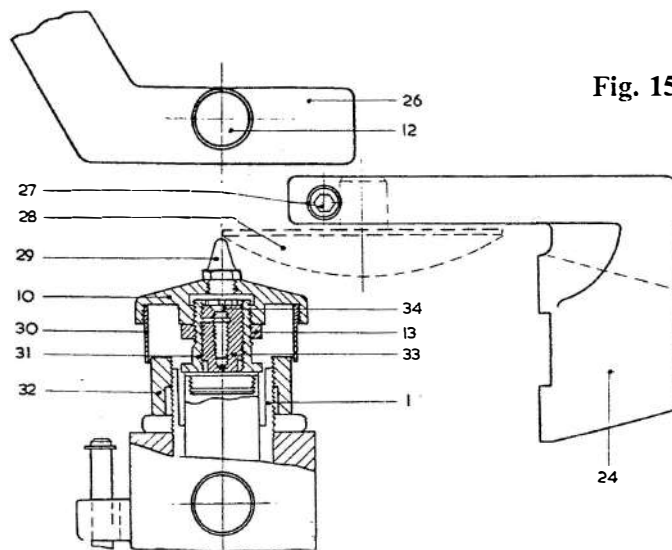

Fig. 15
Assemble the forming feed screw (33 Fig. 15), to the spindle quill, locking down tightly, and fit the forming feed nut (31) (left-hand thread) to the feed screw.